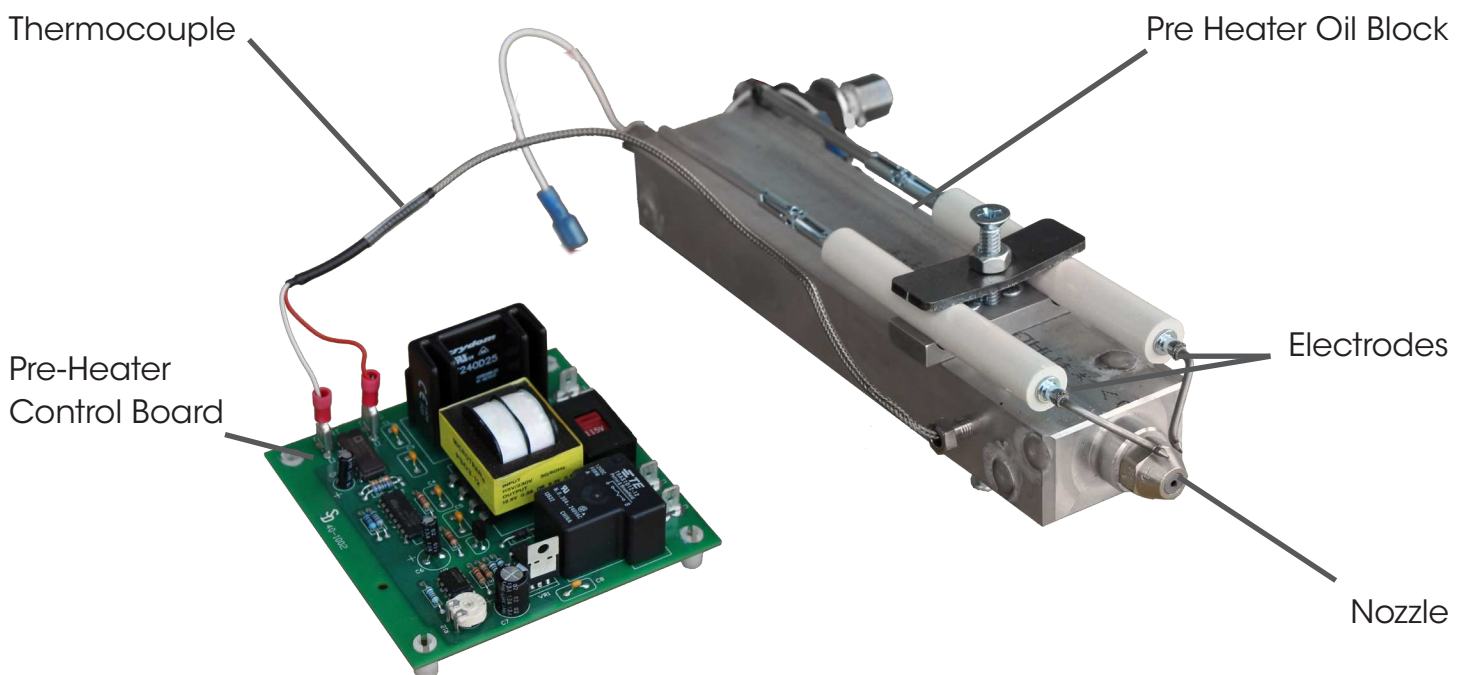

Figure 9 - Pre-Heater Block Detail (Removed From Burner for Clarity)
- **Oil Pre-Heater Block:** (figure 9) Pre-heats the oil before entering combustion chamber.
- **Pre-Heater Control Circuit Board:** (figure 9) Precisely controls temperature of the Oil Pre-Heater Block and controls safety feature of not allowing burner to energize until oil has established operating thermo setpoint or shutdown burner if Pre-Heater Block temperature falls below shutdown thermo setpoint.
- **Electrodes:** (figure 9) Provides continuous high voltage electrical arc from electrode to electrode igniting the waste oil as it is being sprayed out of the nozzle.
- **Nozzle:** (figure 9) High-pressure nozzle for oil spray pattern.
• Inadequate combustion air from burner	• Remove nozzle and check for foreign objects (figures 9 & 10)